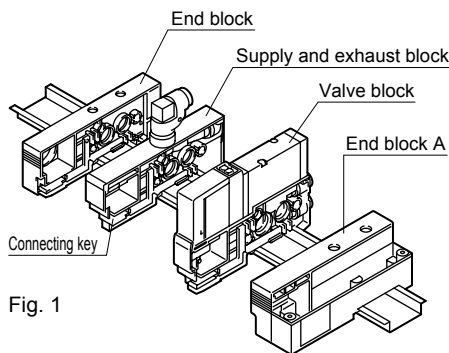

Fig. 1
- (1) Fix the DIN rail.
- (2) Mount the necessary number of stations of end block A, supply and exhaust blocks, and valve blocks in order on the rail and connect between the blocks with the connecting key.
- (3) Fasten the screw on the end block B side (opposite side of wiring block) and fix onto the fastening rail. (Fig. 1)